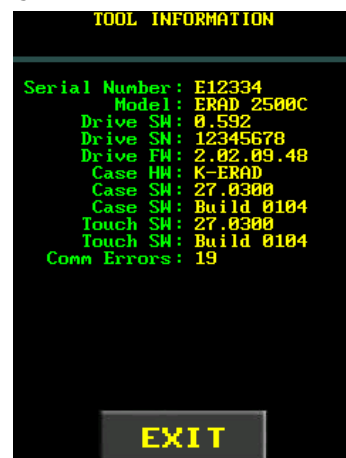

Figure 4.7.1-2: Controller Information
**To view the Tool Handle information** (Figure 4.7.1-3):